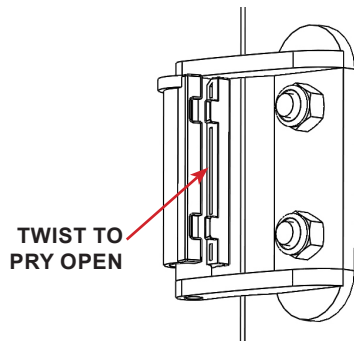

FIGURE 3.8 - Open Hinge Bushing
STEP 1: Use a flathead screwdriver to pry, separate the two hinge bushing halves. See FIGURE 3.8 & 3.9